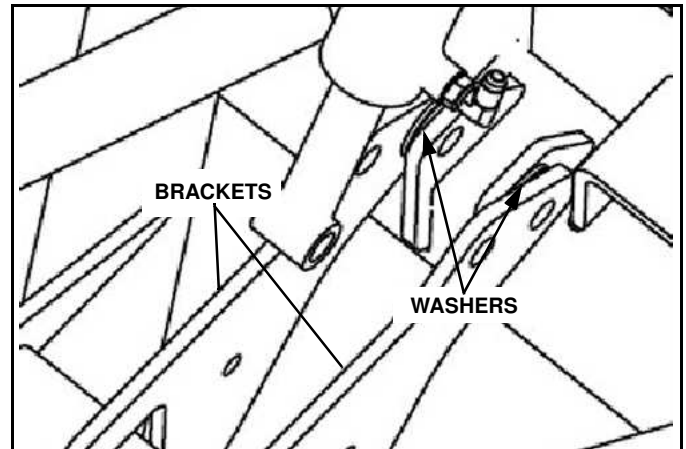

Figure 1-26
- f. Position two lift brackets (p/n 96112623) and four washers as shown. (See Figure 1-26).